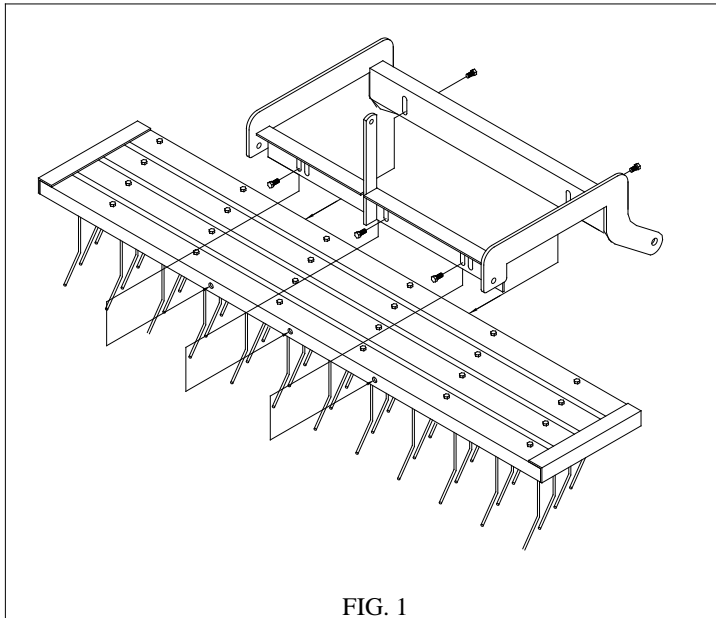

FIG. 1
1. Attach Frame Mount (B) to Frame (A) with 3/8" x 3/4" HHC and Whizlock nuts provided, three (3) on the front and two (2) on the rear. Do not tighten. **Fig. 1**